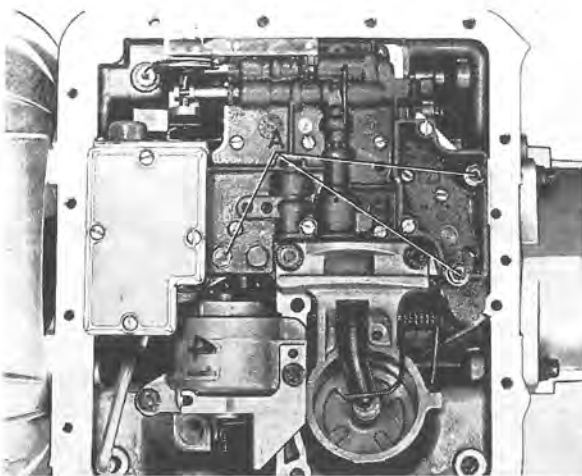

Fig. 4-82. Valve bodies assembly
4. Disconnect the downshift valve cable from the downshift valve cam. Unscrew the three screws which retain the valve bodies assembly to the transmission housing, see Fig. 4-82. Lift the valve bodies assembly straight up so that it releases from the oil tubes at the front end.